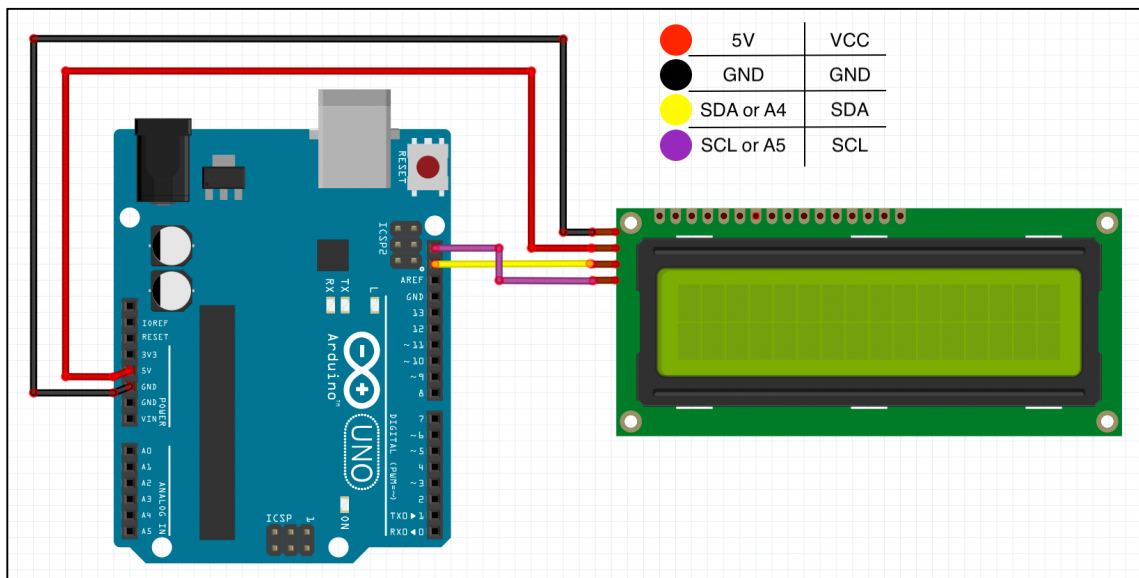

Figure 1. LCD display wiring
Step 3: On the same breadboard, Connect the LCD display to Arduino as per the below wiring convention (*Figure 1*).